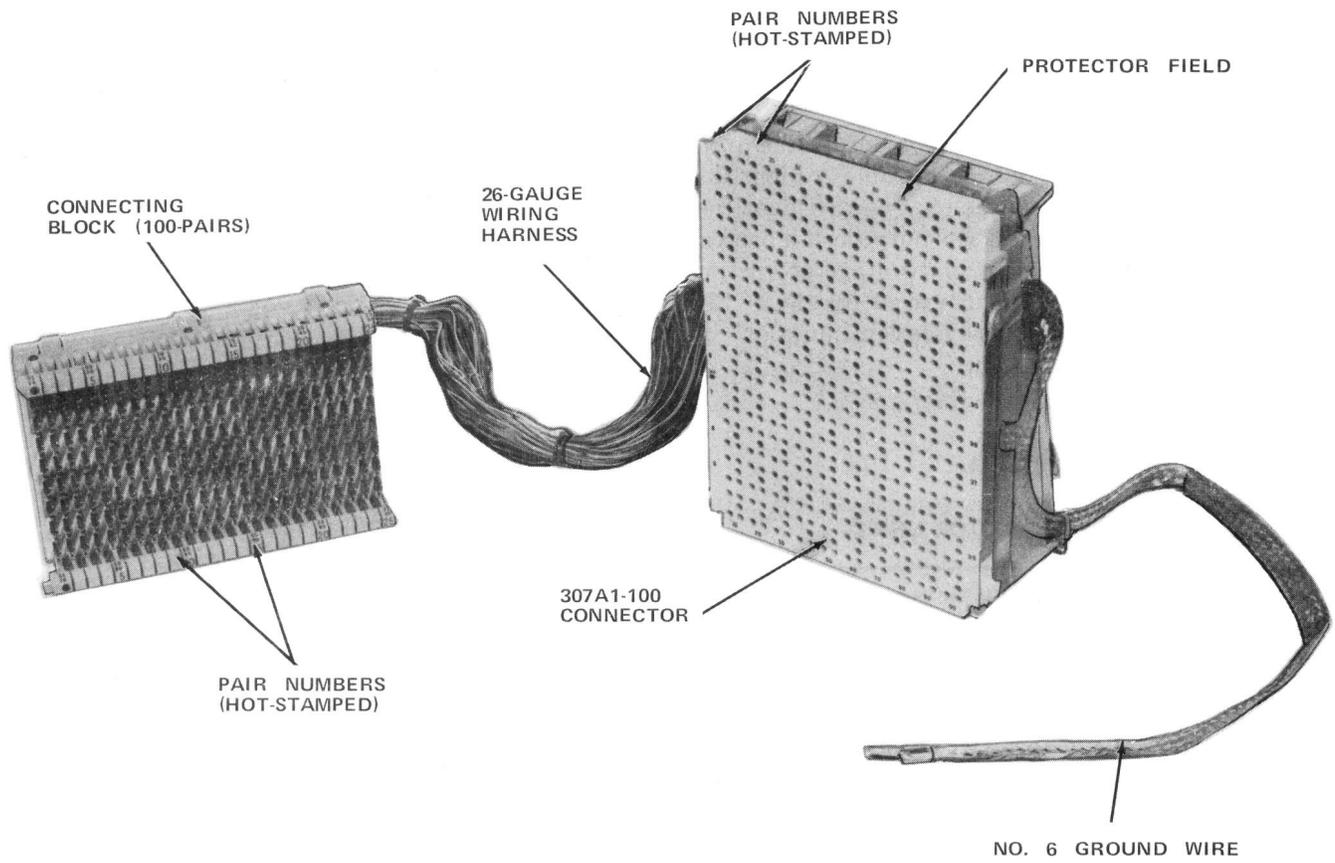

Fig. 1—307-Type Connector Assembly—Front
4.01 The 307-type connector assembly, developed especially for the COSMIC II main distributing frame, consists of two components: the protector panel and the connecting block (Fig. 1 and 2). The protector panel accommodates 100 cable pairs. It is factory wired to either a 100-pair connecting block (307A1-100 or 307D1-100 connector) or two 50-pair connecting blocks (307B1-100 or 307E1-100 connector).